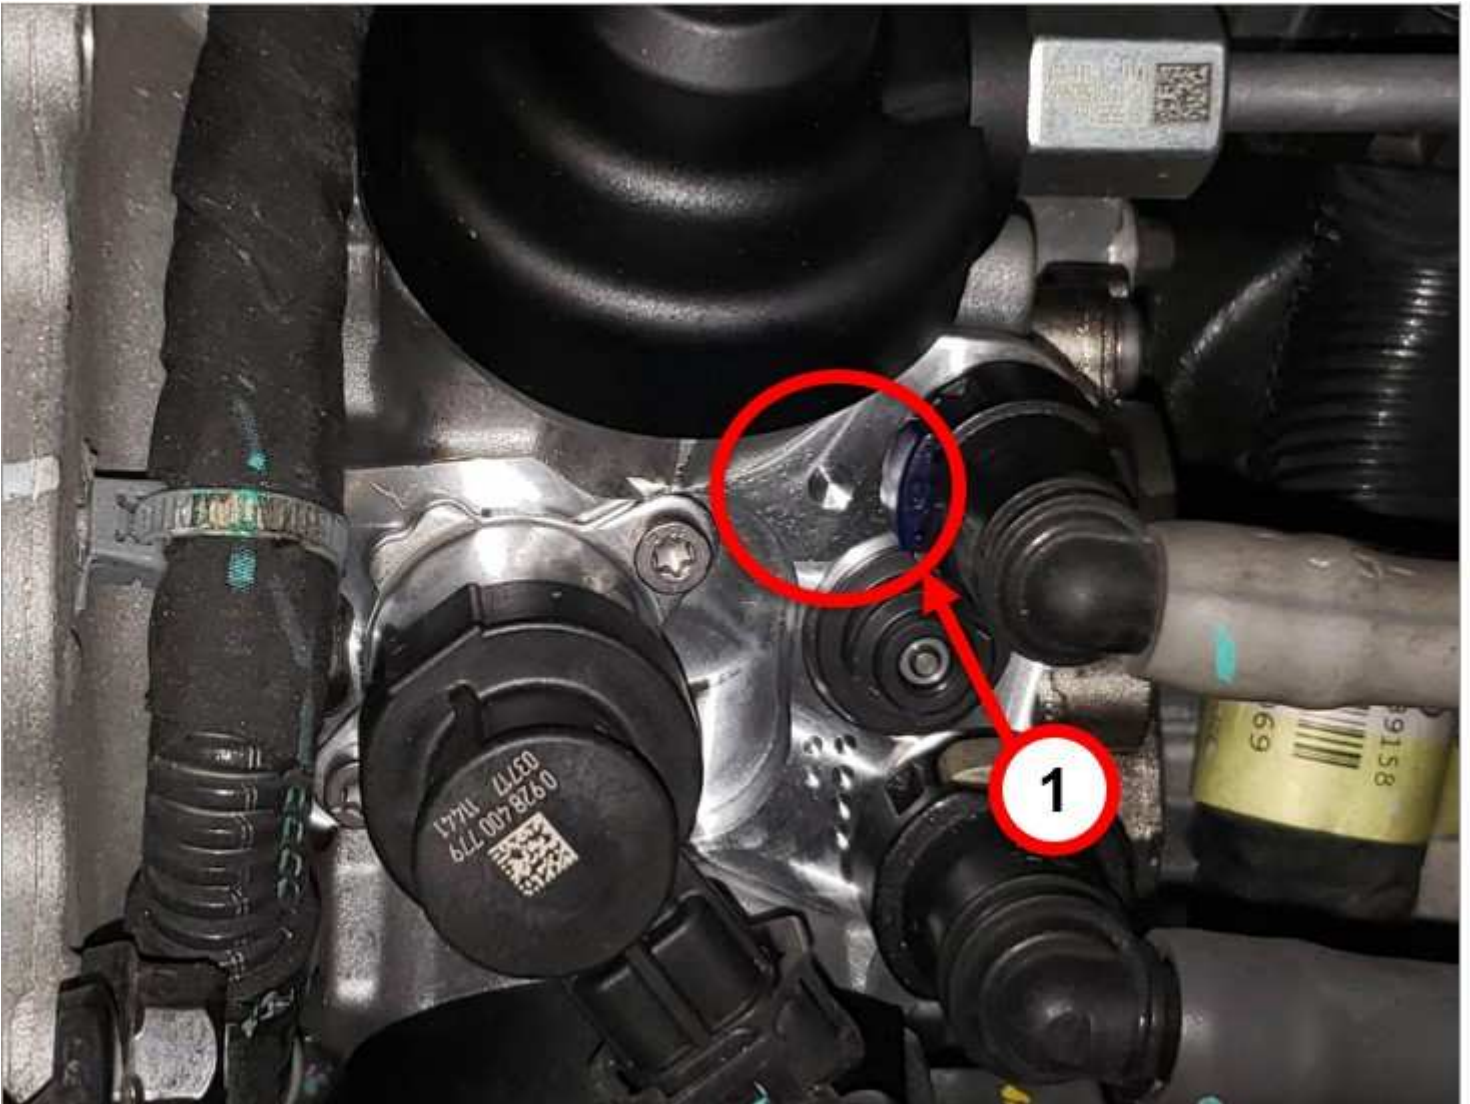

Fig. 1
- Vehicles with the new style Symmetrical Cam design pump will have one large single dot embossed in the pump housing (Fig. 1) .